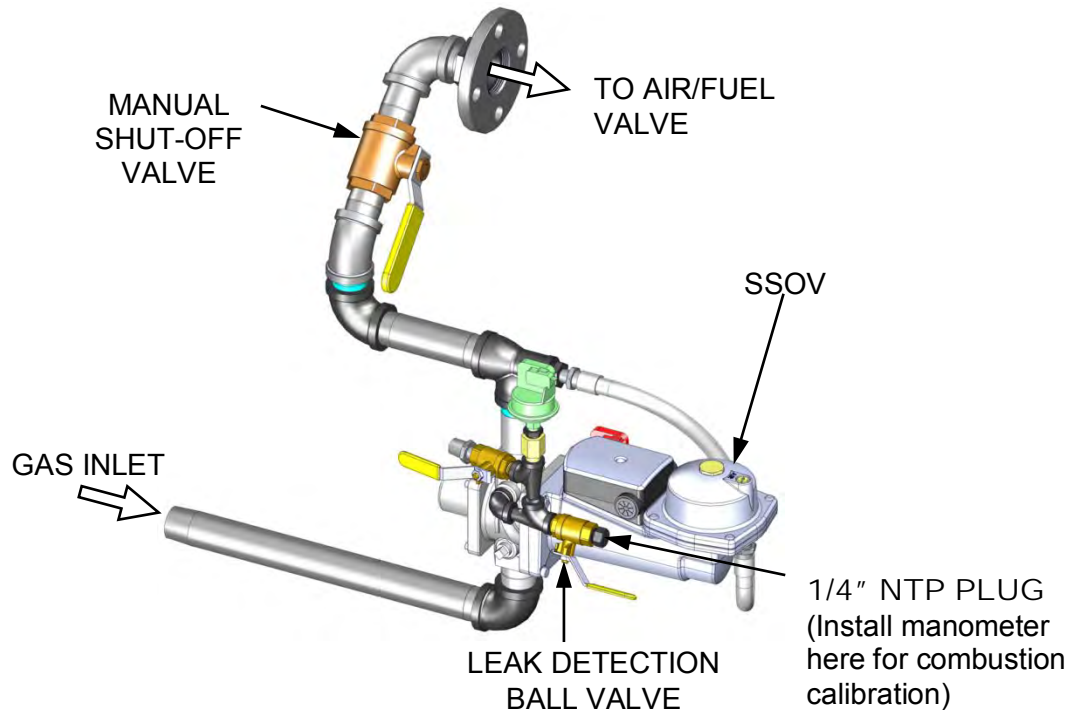

Figure 4-1: 1/4 Inch Gas Plug Location
The gas supply manometer is installed at the upstream and/or downstream location shown in Figure 4-1.
3. To monitor the gas pressure on the downstream side of the SSOV during Combustion Calibration (section 4.3), remove the 1/4" NPT plug from the leak detection ball valve on the downstream side of the SSOV as shown in Figure 4-1.